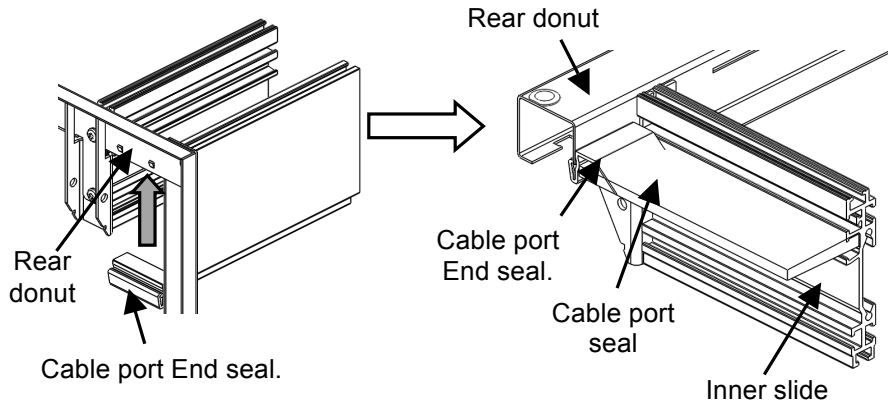

Fig. 9
8. Insert Cable port end seal to rear and front donut (Fig. 9).